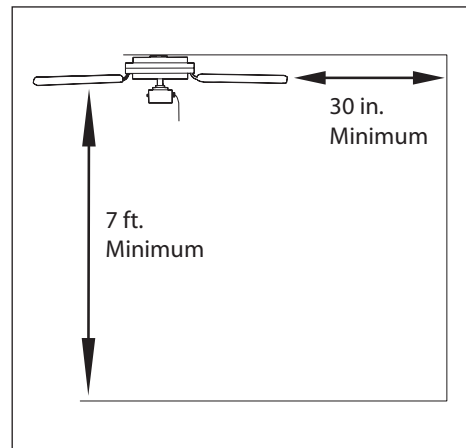

Figure 1.3
3. Choose a suitable location - Ensure the blades will be at least 30 in. from any obstructions and will be at least 7 ft. above the floor (Figure 1.3).